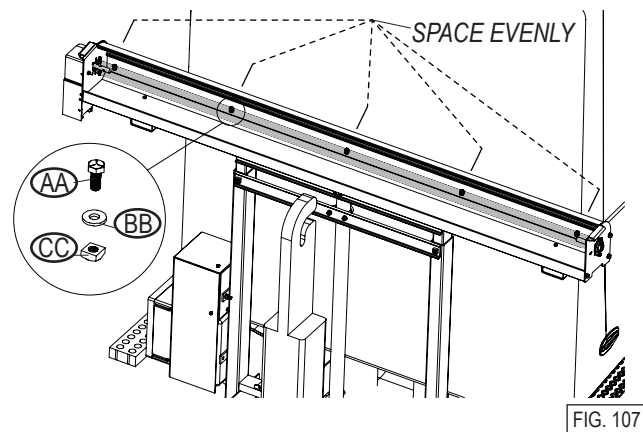

FIG. 107
- On the tarp axle, loosen the pre-installed hardware and space the **bolts (AA)**, **washers (BB)** and **nuts (CC)** evenly along the axle slot. See Figure 107.